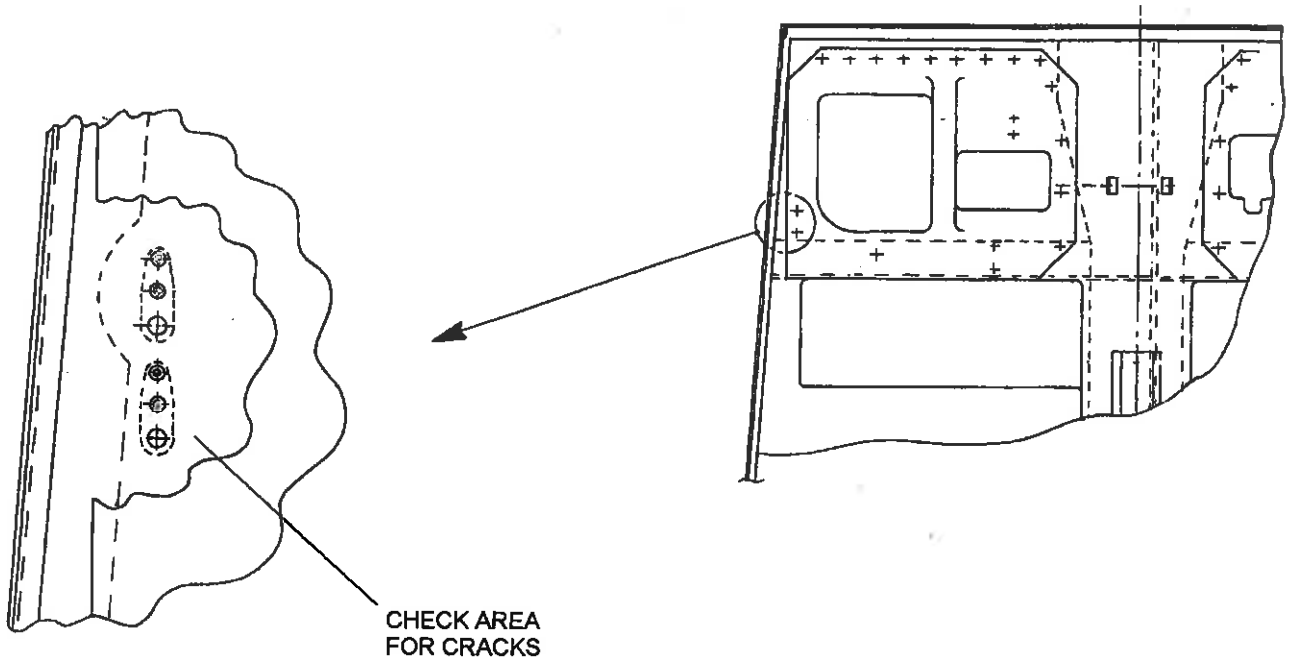

FIGURE 1 CRACK INSPECTION
4. Perform visual inspection for crack in GRP in region of the two anchor nuts directly below the port rudder bar support bracket and floor panel (ref Figure 1).